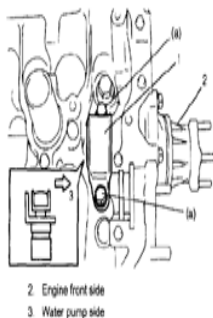

FIGURE 4.
4. Align the RH intake camshaft timing mark as shown in Figure 4 and tighten the camshaft sprocket to 58 ft/lbs.